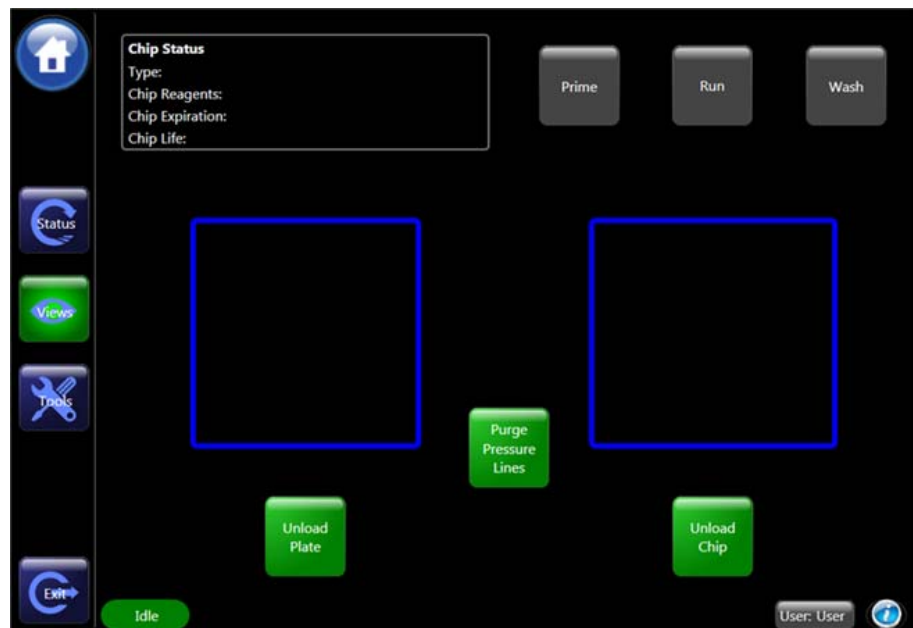

Figure 5. Home screen
- 2 Touch the *Load Plate* button on the *Home* screen (Figure 5) to retract the sample plate and move the sipper to the Buffer Tube.
- b Touch the *Purge Pressure Lines* button on the Home screen (see Figure 5 on page 13).